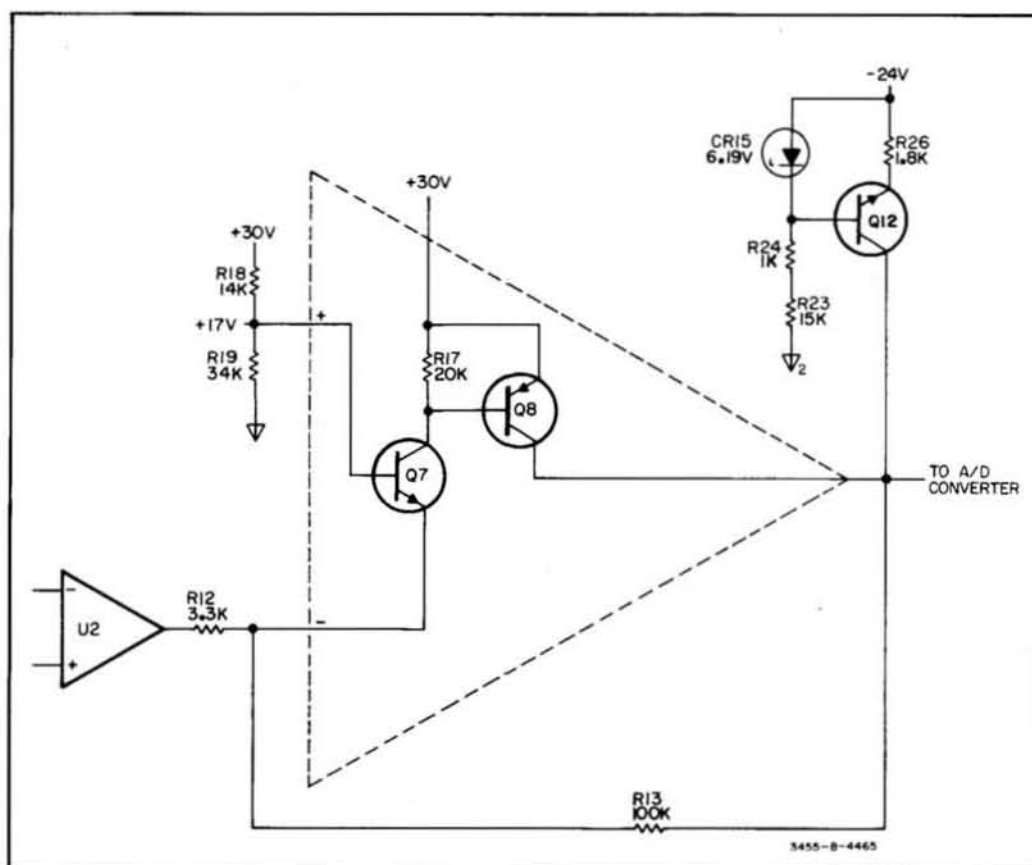

Figure 8-23. Equivalent DC Preamplifier Output Circuit.
**8-78. Output Circuit.** The output circuit of the DC Preamplifier consists of an amplifier (Q7 and Q8) and a current source (Q12). Operation of the output amplifier is similar to that of an inverting operational amplifier with a gain of approximately 30 (see Figure 8-23). The amplifier controls the output by shunting current from the current source. The output circuit drives the DC Preamplifier feedback circuitry and the A/D Converter.